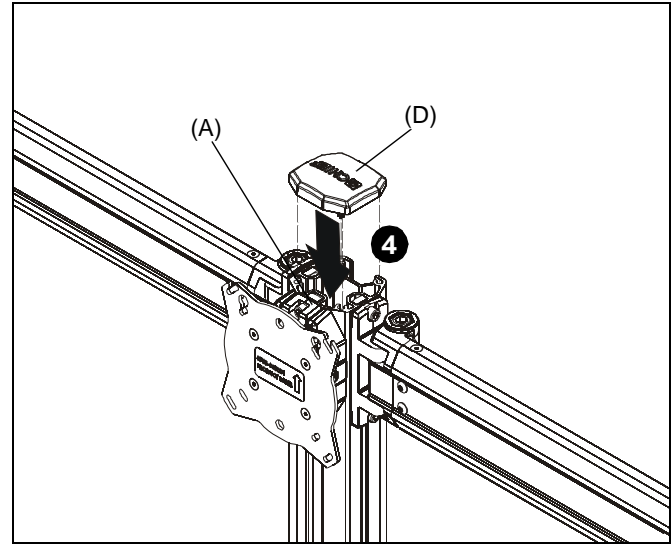

Figure 3
4. Snap column cap (D) onto top of array assembly (A). (See Figure 3)